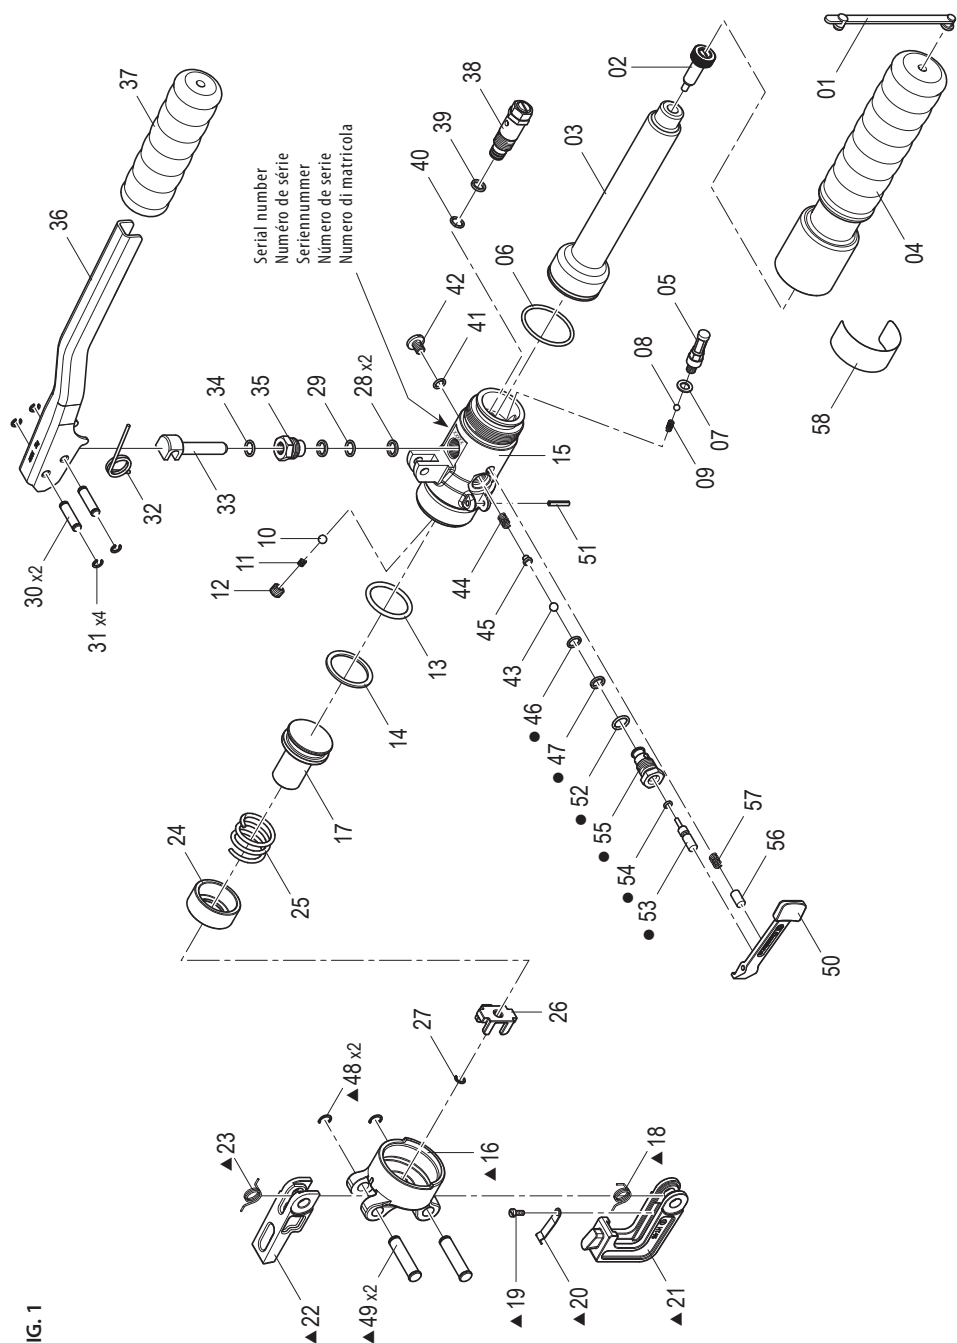

FIG. 1
6. LISTA DEI COMPONENTI (Rif. a Fig. 1)